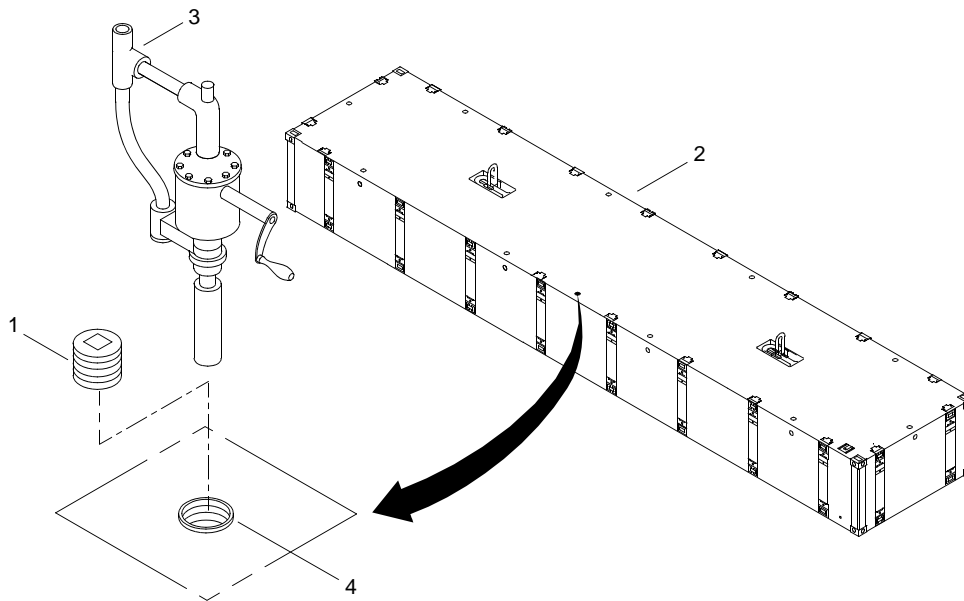

Figure 4. Draining Water from Module (Center Module Shown)
1. Remove drain plugs (figure 4, item 1) from top of module (figure 4, item 2).
2. If water is *not* present in module (figure 4, item 2), go to step 6.
3. Lower telescoping siphon of hand pump (figure 4, item 3) through hole (figure 4, item 4) in top of module (figure 4, item 2).
4. Operate hand pump (figure 4, item 3) to remove water.
5. Pressure test module (figure 4, item 2). (WP 0010 00)
6. Apply antiseize compound to threads of drain plugs (figure 4, item 1).
7. Install drain plugs (figure 4, item 1) into module (figure 4, item 2). Tighten drain plugs (figure 4, item 1).